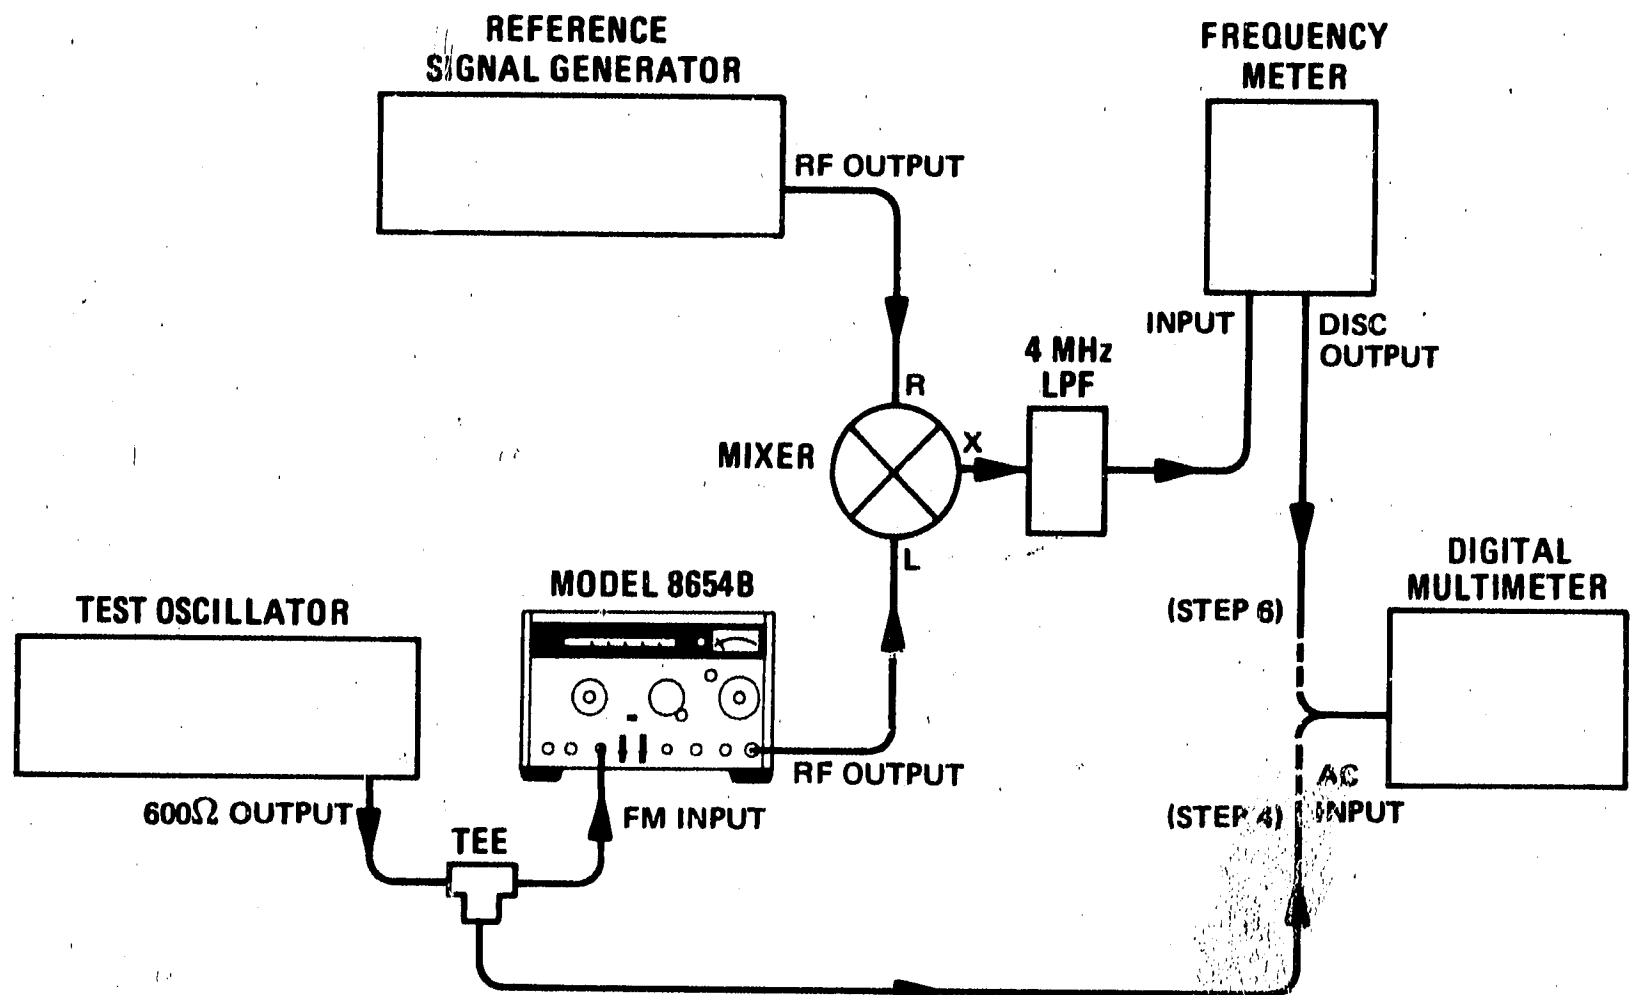

Figure 4-10. FM Sensitivity and Meter Accuracy Test Setup
2. Connect equipment as shown in Figure 4-10 after setting test Signal Generator controls as follows: